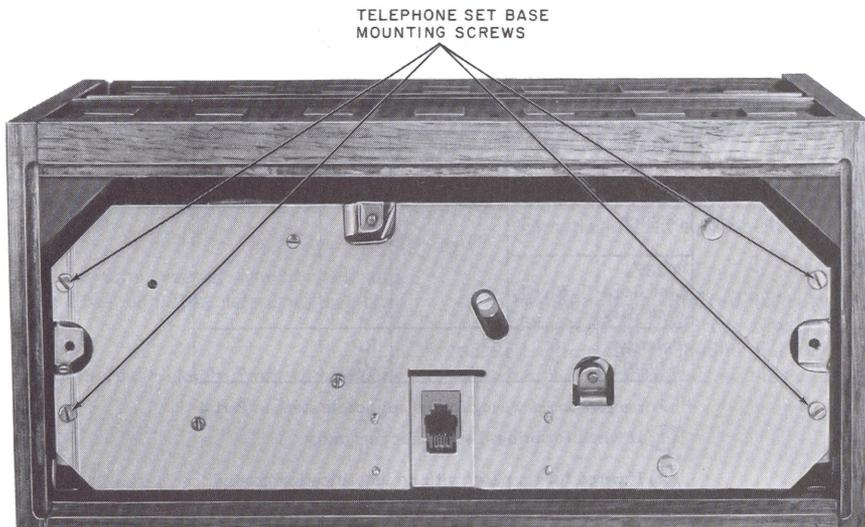

Fig. 8—Removing Telephone Set Base (910A or 2910A Telephone Set)
- (5) Remove the four screws, two at each end, from the 910A or 2910A telephone set base (Fig. 8).